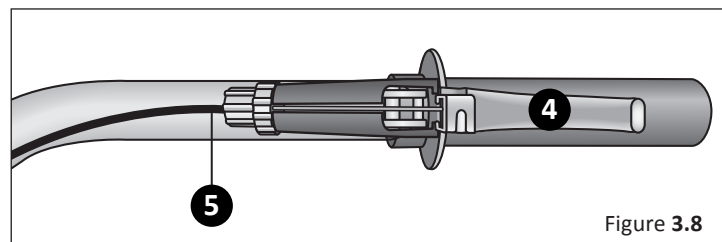

Figure 3.8
- ❹ Release the brake lever. Figure 3.8
- ❺ Lightly pull on the cable and rotate the cable nut and cable barrel so they are no longer aligned.